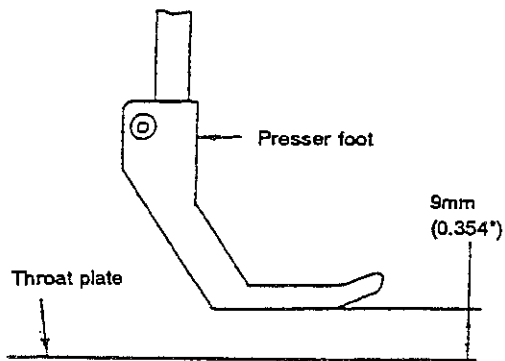

Fig. 1
<p>1) Adjusting the timing of opener</p> <ol style="list-style-type: none"> 1. Loosen two screws ❶ in the screw gear of the opener shaft. (Fig. 3) 2. Align the graduation "J" on the handwheel with the handwheel pointer. (Fig. 2) 3. Turn the opener shaft using the slot provided on the bottom end of the opener shaft. (Fig. 3) 4. For the standard adjustment, adjust so that the opener is brought to the extreme forward position in the state described in item 2 by turning the opener shaft. Then, tighten screw ❶ in the screw gear of the opener shaft. (Figs. 1 and 3) <p>(Caution) Re-adjust the thread trimmer cam after the completion of the adjustment of the opener timing. (Refer to "Thread trimmer cam" page 41.)</p>	<p>☆ Loose stitches may result.</p> <p>2' Refer to "(1) Kinds and names of graduations on the handwheel" on page 3.</p> <p>4' At this time, tighten screws ❶ while pressing down the screw gear of the opener shaft so as to eliminate a play.</p> <p>Turn the opener shaft clockwise as viewed from underside, and the timing of the opener will be advanced. Turn the opener shaft counterclockwise, and it will be retarded.</p>